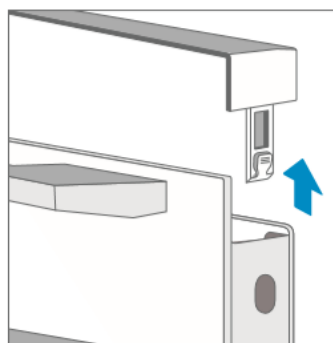

Figure 2: removing the cover
2. Remove the cover (figure 2);